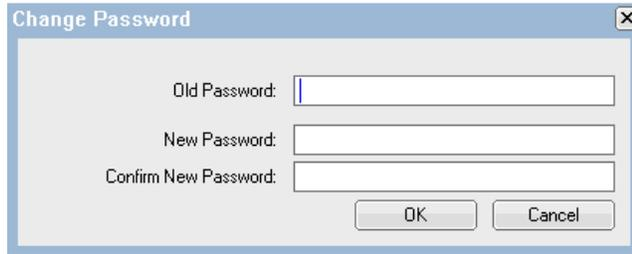

Figure 6-8 Change password menu of the CP20 interface
3. Enter a new password and confirm this new password. Click **OK**. See Figure 6-8.